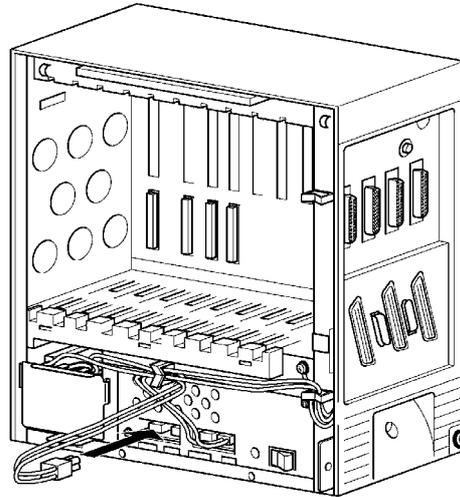

Figure 4-30 Connecting the Batteries to the Power Supply Unit
4. Connect the cable to the **BATTERY INT** connector of the PSU as shown in *Figure 4-30 Connecting the Batteries to the Power Supply Unit*.